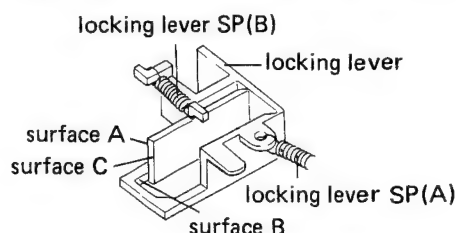

Fig. 1-3 Weak locking lever SP(B)
As shown in figure 1-3, if the locking lever SP(B) is too weak, surfaces A and B of the locking lever will be separated. The spring must then be reworked so that surfaces A and B are always in contact with each other. The repeat function operates normally when driving lever (B), surface A touches surface C of the locking lever and driving lever (B) remains in that position.